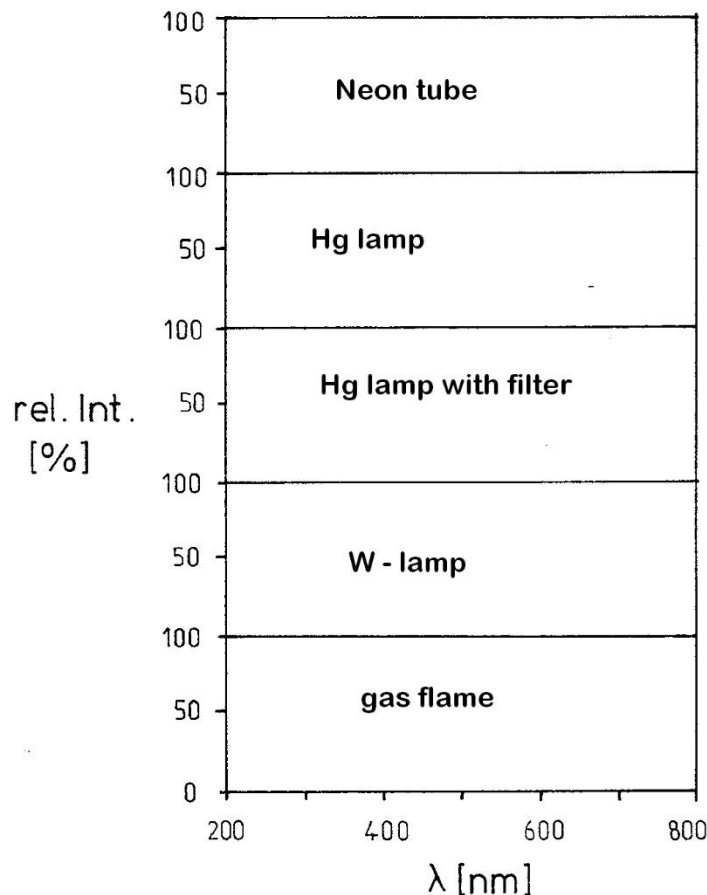

Fig. 2: Comparison of the emission spectra of the light sources
- 1) Make a clear sketch on graph paper as shown in Fig. 2, showing the main spectroscopic characteristics of the individual light sources (on 1 sheet).
- 6) Discuss the function of equation (2)!